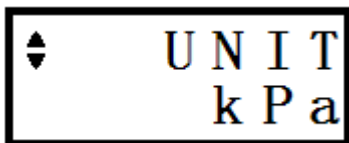

Figure14
5.1.3 Enter "Confirm" once to get into the unit setting function, as shown in figure 14;
3.4 Enter "Confirm" once to clear the message and return to the menu, as shown in Figure 14.